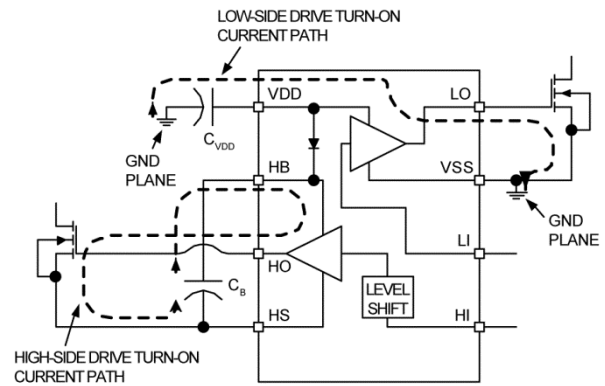
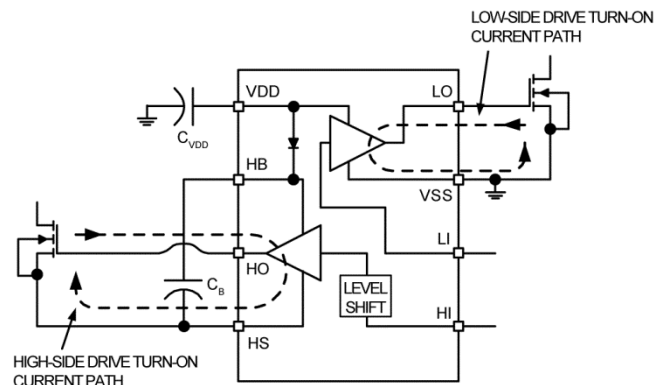

Figure 8. Turn-On Current Paths
Figure 9. Turn-Off Current Paths
Figure 8 shows the critical current paths when the driver outputs go high and turn on the external MOSFETs. It also helps demonstrate the need for a low impedance ground plane. Charge needed to turn-on the MOSFET gates comes from the decoupling capacitors C_{VDD} and C_B . Current in the low-side gate driver flows from C_{VDD} through the internal driver, into the MOSFET gate and out the Source. The return connection back to the decoupling capacitor is made through the ground plane. Any inductance or resistance in the ground return path causes a voltage spike or ringing to appear on the source of the MOSFET. This voltage works against the gate drive voltage and can either slow down or turn off the MOSFET during the period where it should be turned on.
Figure 9 shows the critical current paths when the driver outputs go low and turn off the external MOSFETs. Short, low impedance connections are important during turn-off for the same reasons given in the turn-on explanation. Remember that during turn-off current flowing through the internal diode replenishes charge in the bootstrap capacitor (C_B).
3. Trace out the high di/dt and dv/dt paths (as shown in Figure 8 and Figure 9) and minimize trace length and loop area for these connections. Minimizing these parameters decreases the parasitic inductance and the radiated EMI generated by fast rise and fall times.